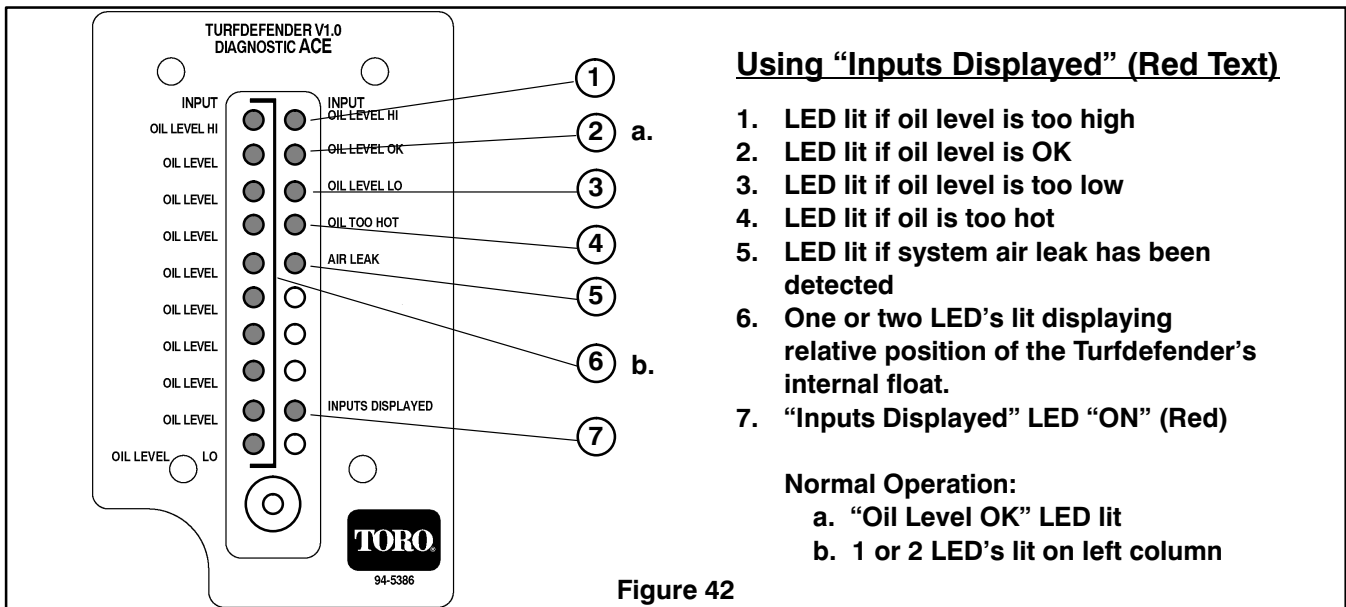

Figure 42
1. When the "Inputs displayed" LED is lit, the actual Float position (1 or 2 LED's on left row) and "Oil level OK" LED – should be displayed (Fig. 42).
1. When toggling "input", a LED should display (Fig. 42) any of the following problems diagnosed by the TurfDefender: